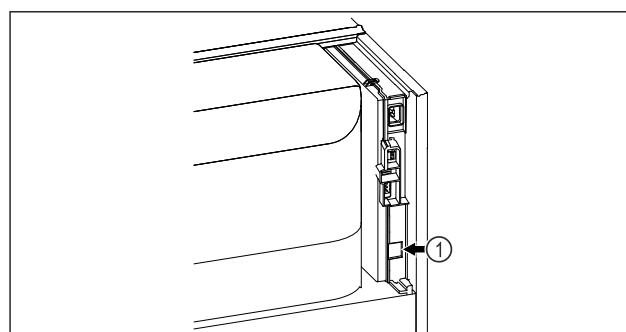

Fig. 109
- ❑ SmartModule Fig. 109 (1) is in use.